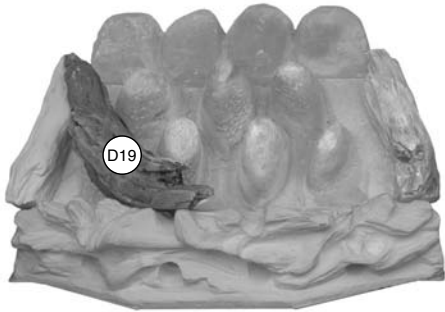

Fig. 61
6. Following Figs. 61 to 67, place the loose driftwood pieces onto the fuel bed. It is important that the driftwood 'nests' together and sits on top of the fuel bed peaks.